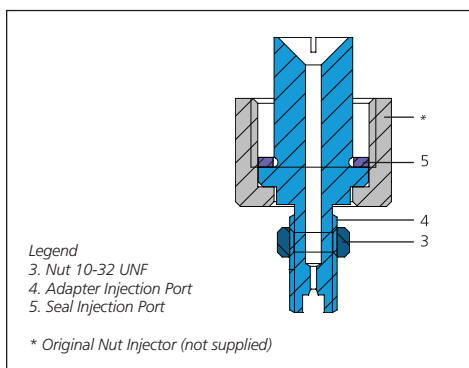

Figure 2. Image of the injector showing the SilTite™ FingerTite injector adapter assembly.
5. Locate the Adapter Injection Port (4), Seal (5) and assemble as displayed in Figure 2.
7. Replace Thermal Insulator using nut (3).